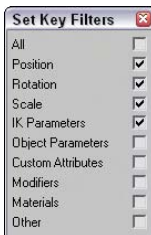

Figure 30-2: Use the Set Key Filters dialog box to specify the types of keys to create.
The Set Key button (K) offers more control over the key creation and sets keys only when you click the Set Key button (K). It also creates keys only for the key types enabled in the Key Filters dialog box. You can open the Key Filters dialog box, shown in Figure 30-2, by clicking the Key Filters button. Available key types include All, Position, Rotation, Scale, IK Parameters, Object Parameters, Custom Attributes, Modifiers, Materials, and Other (which allows keys to be set for manipulator values).